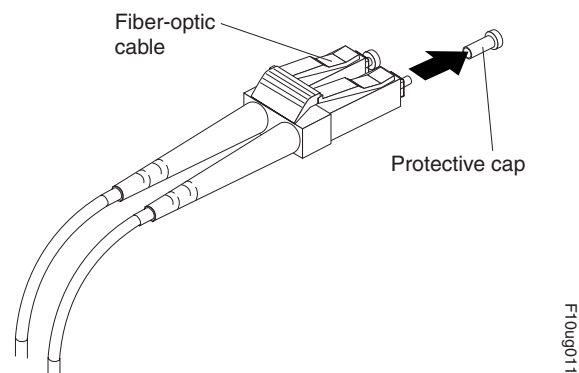

Figure 26. Removing fiber-optic cable protective caps
2. If necessary, remove the protective cap from the SFP module, as shown in Figure 26. Save the protective cap for future use.
3. Remove the two protective caps from one end of the LC-LC cable, as shown in Figure 26. Save the protective caps for future use.